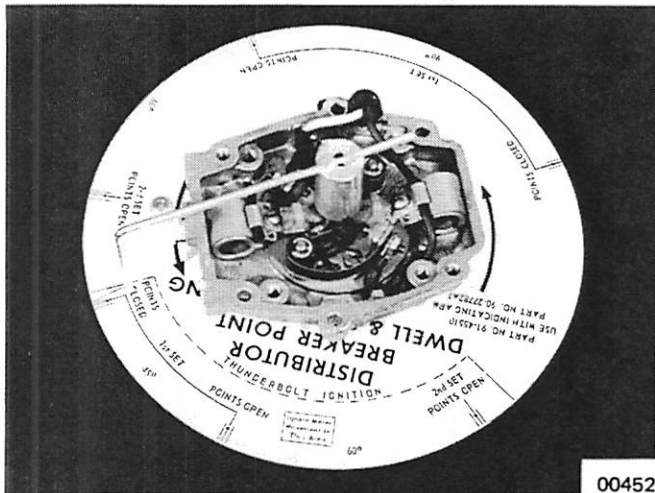

Figure 6. Six-Cylinder Dwell Plate (C-91-45510A1)
(1) Install dwell plate (C-91-45510A1)
- (e) Move degree plate in (either) direction which is required to place "Points Close" mark directly under indicator arm. (Figure 6)